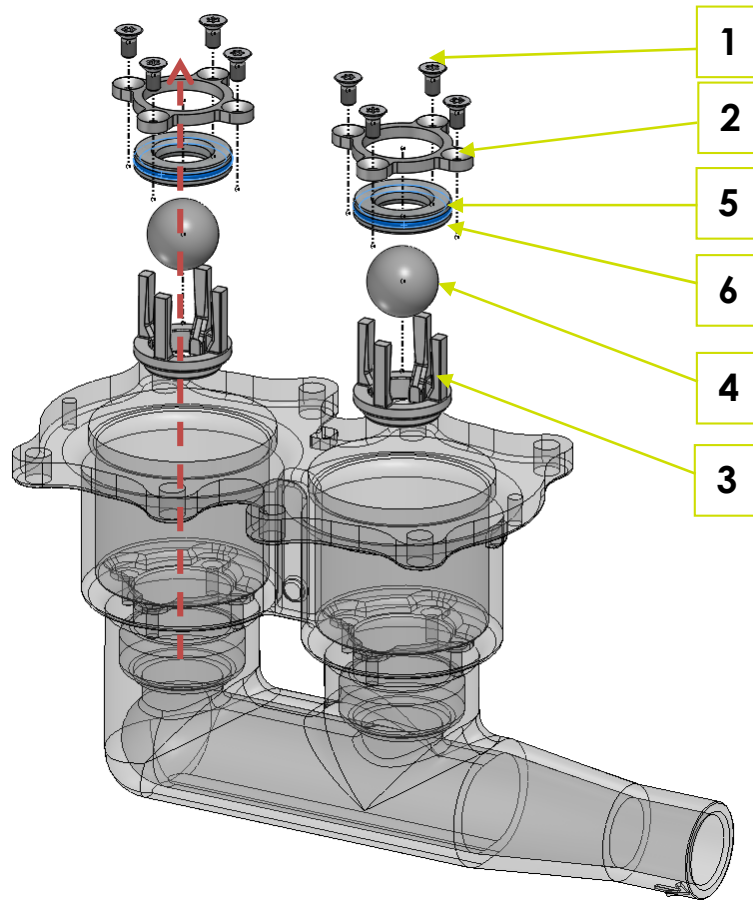

Fig. 6-3: Removing the media valves in the cylinder cover
1. Unscrew all eight countersunk head screws M6x12 (1) with a T30 Torx spanner (Fig. 6-3: Removing the media valves in the cylinder cover).
2. Take out both retaining stars (2).
3. Take out both valve seats (5) with the O-rings (6).
4. Take out both cages (3) and balls (4).